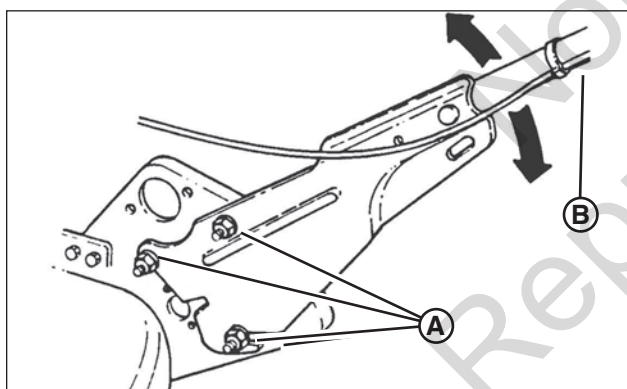

Figure 5: Adjusting the handle height
1. Loosen the lower nuts (**A, Figure 5**) on each lower handle.